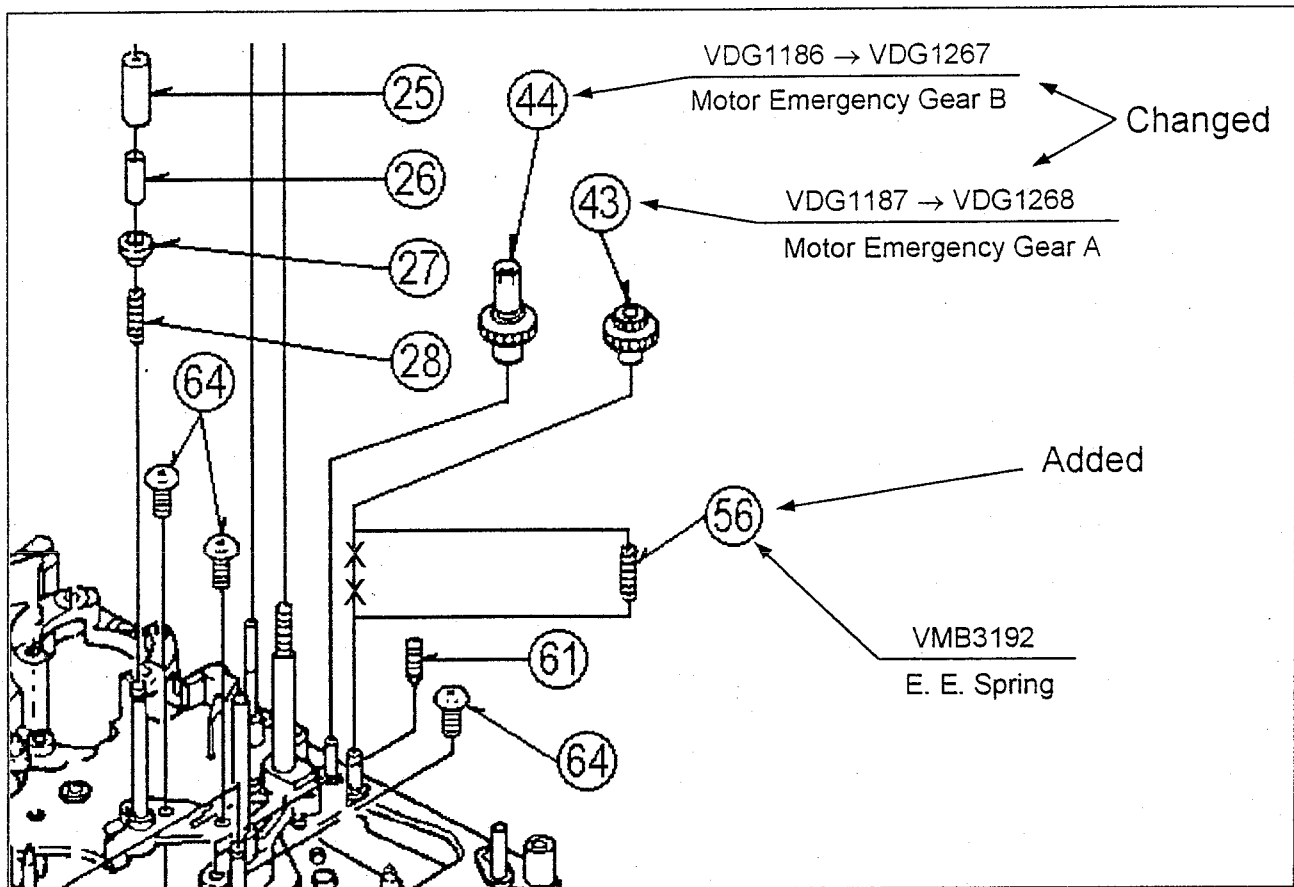

Fig. 2
- 1). Loading Motor, Motor Emergency Gear (A) and (B) are changed.
- 2). E.E. Spring (VMB3192) is added under the Motor Emergency Gear (A) as shown in figure 2.